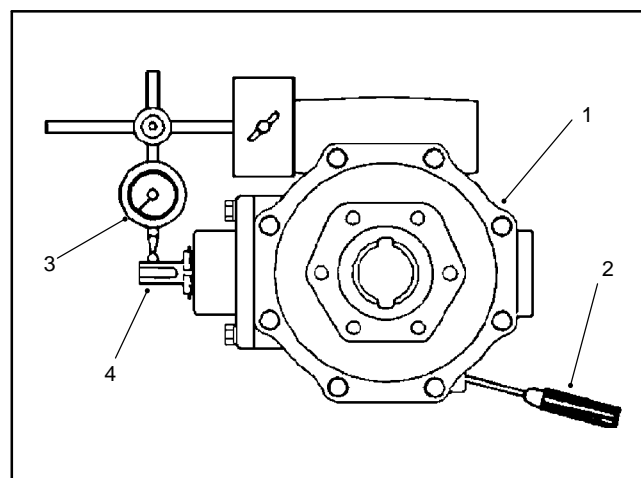

Figure 35
10. Insert a screwdriver through the drain plug hole to hold ring gear and measure the pinion gear to ring gear backlash (Fig. 35).